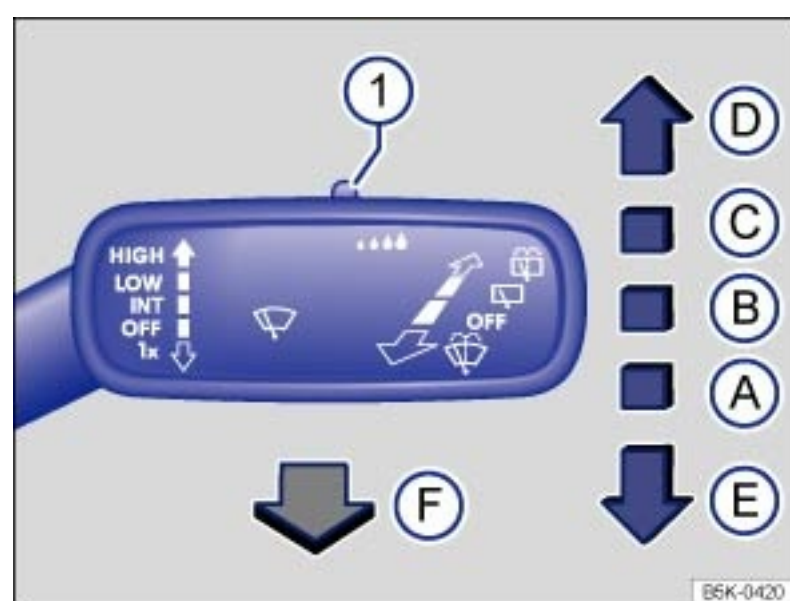

Fig. 88 Operating the front windshield wipers.
- ▶ Press the windshield wiper lever down briefly → Fig. 88 ⑤ when the ignition is off.
Carefully fold the wiper arms back onto the windshield before driving! Switch the ignition on and press the windshield wiper lever down briefly → Fig. 88 ⑤ . The wiper arms move back to their original position.